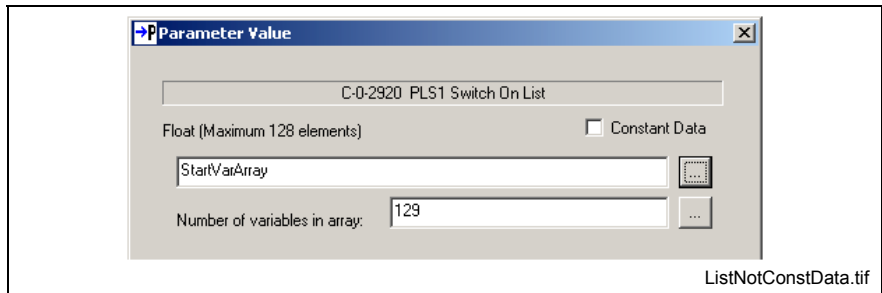

Fig. 14-60: Selecting Non-Constant Data for a List Parameter
3. After selecting the list parameter, uncheck the *Constant Data* checkbox from the *Parameter Value* window. Refer to Fig. 14-60 for details.